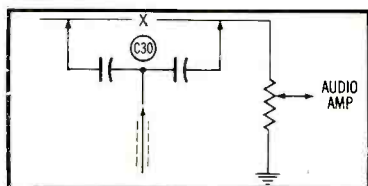

Fig. 2—Audio circuit is broken and C-30 connected in series with it.
- (d) Insert dual .02 mfd condensers in series with lead to high side of volume control. (see Fig. 2) Then connect shielded lead to junction of dual condenser.